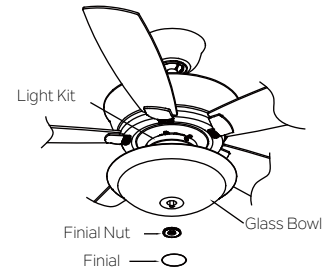

Fig. 25
**Step 2.** Slide the glass bowl over the threaded pipe on the light kit. Thread the finial nut onto the pipe. Attach and tighten the decorative finial. (Fig. 25)